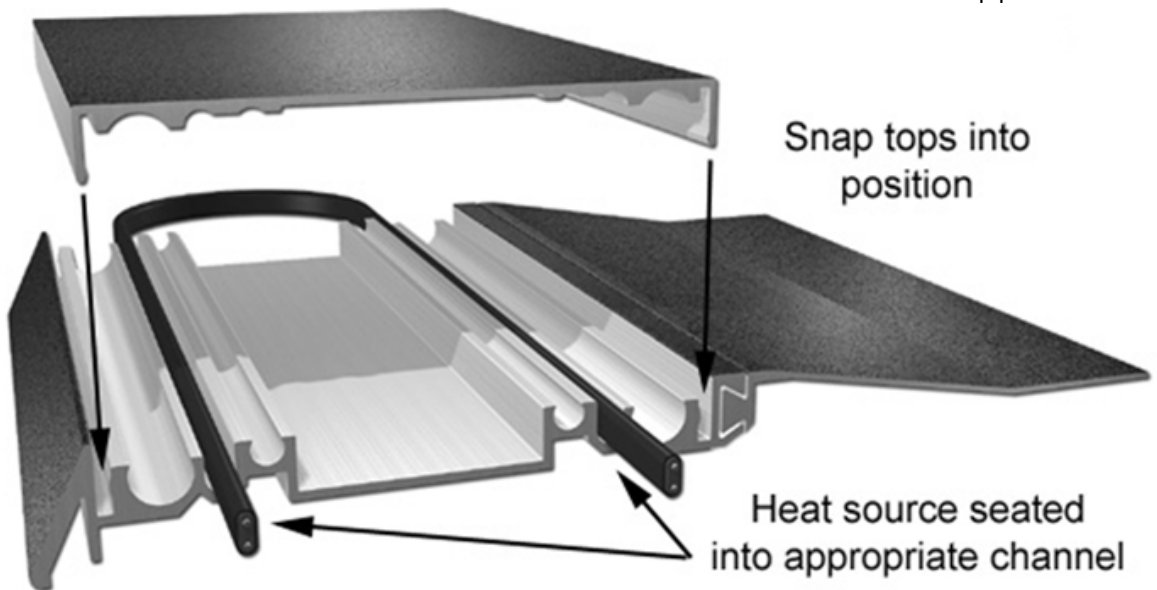

FIGURE 4
- iii. Do not drill holes too close to outer sides of transitions because mounting hardware may interfere with Expansion Joint Caps. FIG 4
a) Attaching Panel Tops FIG 4